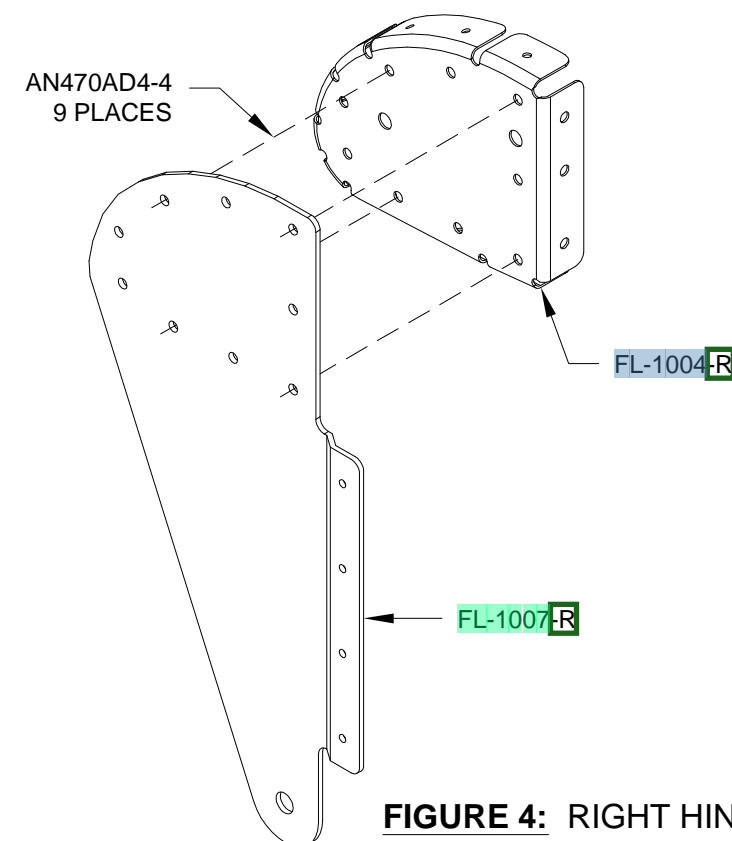
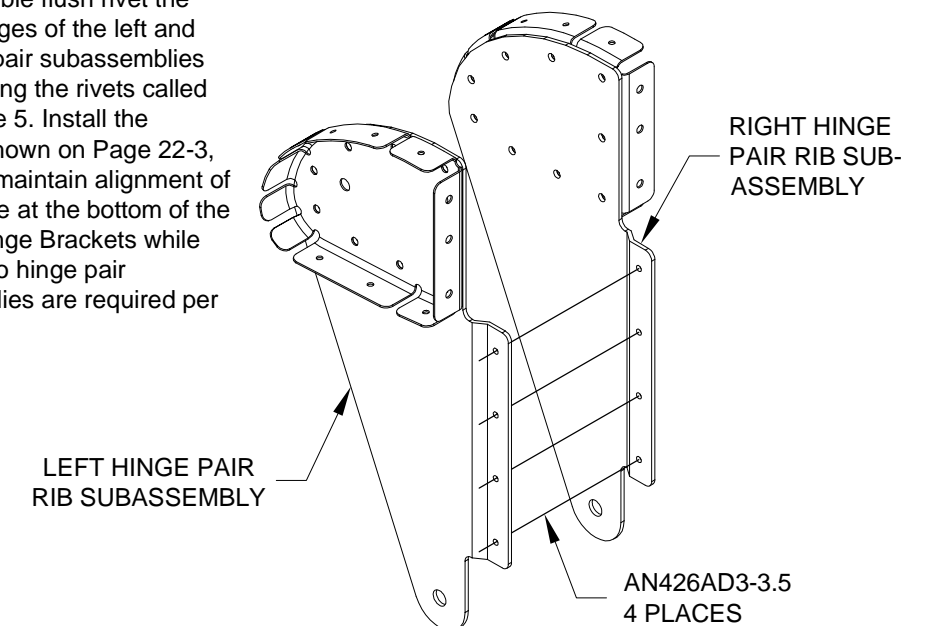
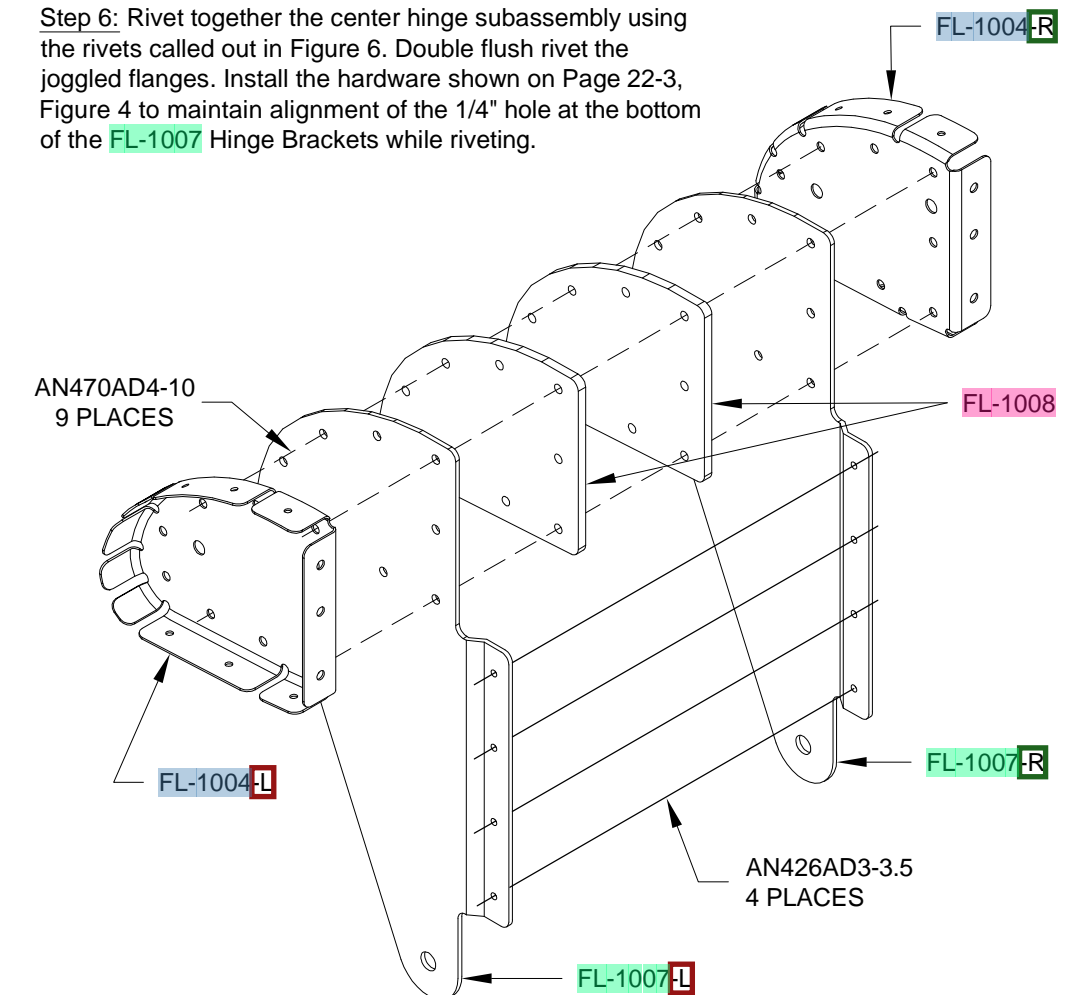

FIGURE 4: RIGHT HINGE PAIR RIB SUBASSEMBLY
FIGURE 5: HINGE PAIR SUBASSEMBLY
FIGURE 6: CENTER HINGE SUBASSEMBLY
Step 4: Rivet together the two right hinge pair rib subassemblies using the rivets called out in Figure 4.
Step 5: Double flush rivet the joggled flanges of the left and right hinge pair subassemblies together using the rivets called out in Figure 5. Install the hardware shown on Page 22-3, Figure 4 to maintain alignment of the 1/4" hole at the bottom of the FL-1007 Hinge Brackets while riveting. Two hinge pair subassemblies are required per flap.
Step 6: Rivet together the center hinge subassembly using the rivets called out in Figure 6. Double flush rivet the joggled flanges. Install the hardware shown on Page 22-3, Figure 4 to maintain alignment of the 1/4" hole at the bottom of the FL-1007 Hinge Brackets while riveting.